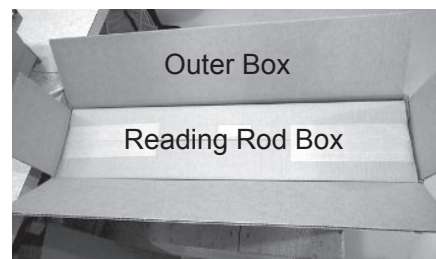

Figure IS-1 Outer Box
1. Open the top of the outer box and remove the top box containing the Reading Rod. Refer to Figure IS-1.